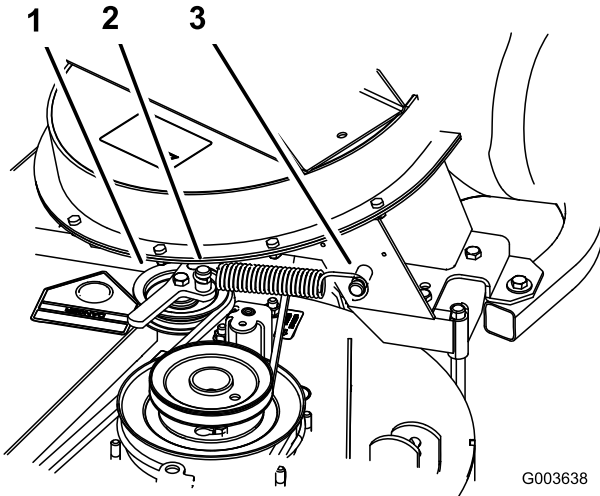

Figure 17
- Install the spring as shown in Figure 17.